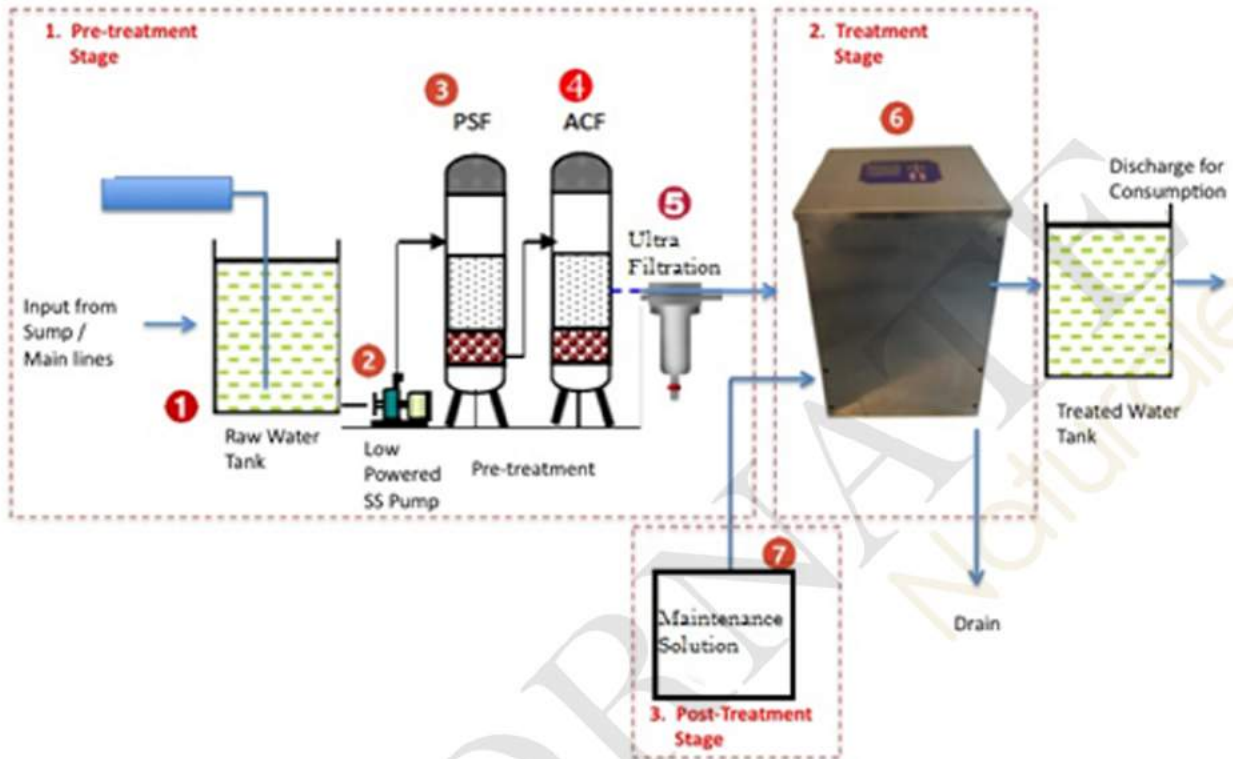

Figure 2: Schematic representation of the water treatment process
AQUADION™ has the following pre-treatment steps (Stages 1-5 in Figure 2)
2. Treatment Stage (Stage 6 in Figure 2)
3. Post treatment stage (Stage 7 in Figure 2)